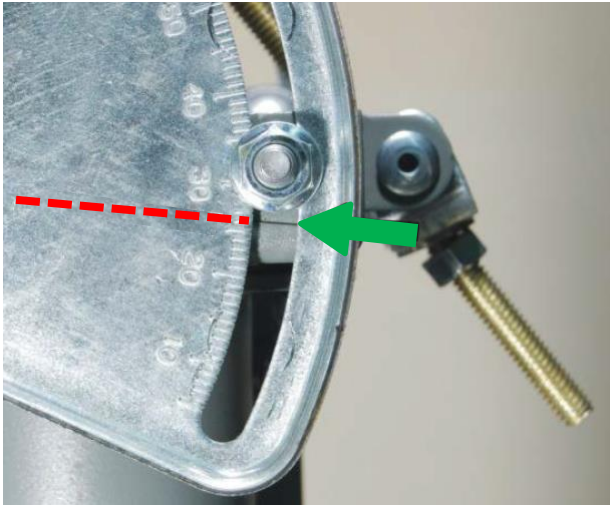

Figure 17
Step 26: Set Elevation on the Antenna with Elevation Adjustment nut #1 (fig. 5) using the Scale and Marker (fig. 17) or a digital inclinometer to better the accuracy